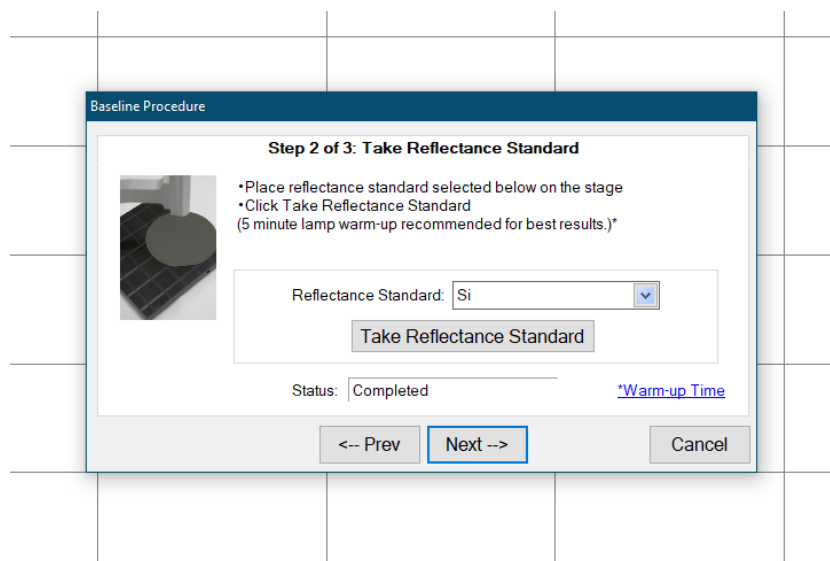

Figure 10. Step 2 of Baseline Calibration: Take Reflectance Standard
10. From the drop-down menu, select "Si" for the reflectance standard as shown in Figure 10. Click "Take Reflectance Standard" to measure the Si reference sample, then click "Next."